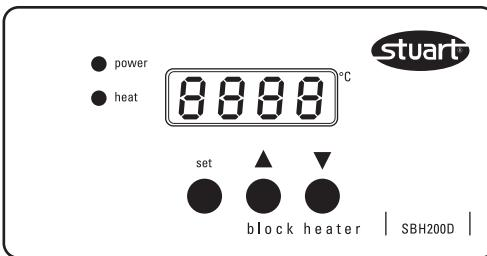

Figure 3 - digital controls
- The “power” light will illuminate as will the digital display - see figure 3.
- The digital display will show the actual temperature of the aluminium blocks. If the instrument’s current set temperature is above this value it will begin to heat and the “heat” light on the control panel will illuminate. The current set temperature may be viewed at any time by pressing and holding the “set” button – see figure 3.
5. This setting may be increased by pressing the button labeled ▲ or decreased by pressing the button labeled ▼ while continuing to press and hold the "set" button – see figure 3.